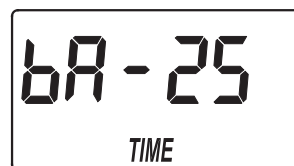

FIG. 25
1. If you completed the previous step, the backwash time adjust screen should show in the display (See Figure 25). Otherwise, press and hold for 3 seconds the SELECT button, until the display shows "000 - -", then press the SELECT button four times to display the backwash time adjust screen.